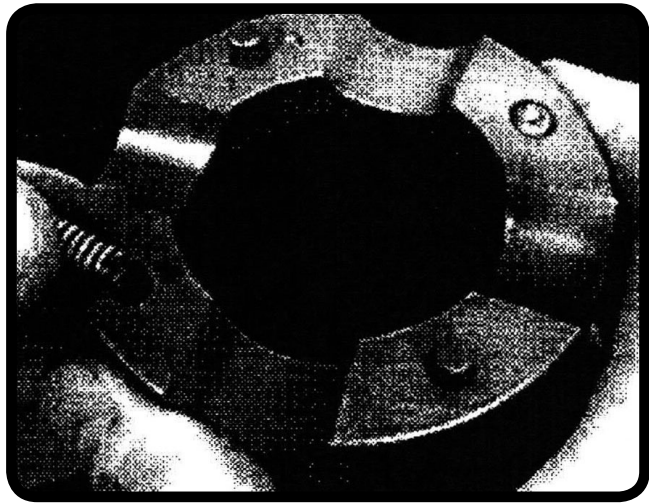

Figure 11
5. Place a bias spring assembly into each deep hole in the other driver and place a pin into each of the other holes. Use grease to help hold them in place (**Figure 11**).